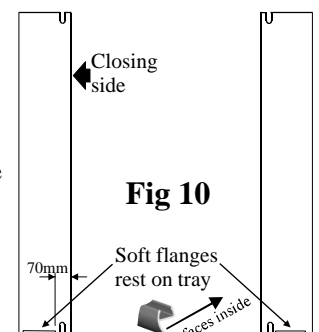

Fig 10
4.3 The gaskets already fitted to the narrow glass panels are to suit a door only application. Remove these gaskets and replace with the shorter gaskets supplied. Fit these gaskets 70mm from those edges of the panels that will be adjacent to the door. See Fig 10.